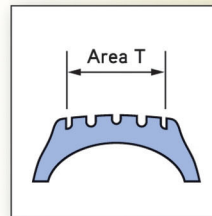

Fig. 1
- ▶ Repairable area is limited to 80% of the tread width (fig. 1).